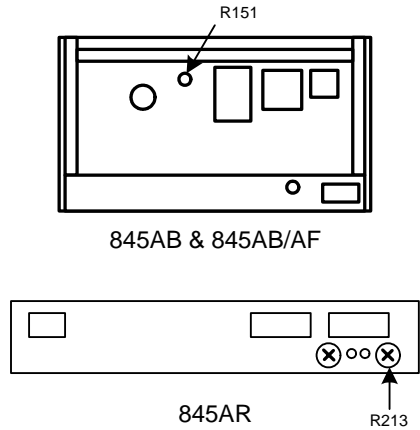

Figure 1. High impedance voltmeter - null detector - rear view.
(1) Set **RANGE** switch to **10 μ** .
(2) Connect calibrator to TI **INPUT** and **COMMON** terminals.
(3) Adjust calibrator dials to **10.000000**.
(4) Adjust R151 (R213 for model 845AR) (fig. 1) to obtain full-scale (+10) deflection on TI meter (R).